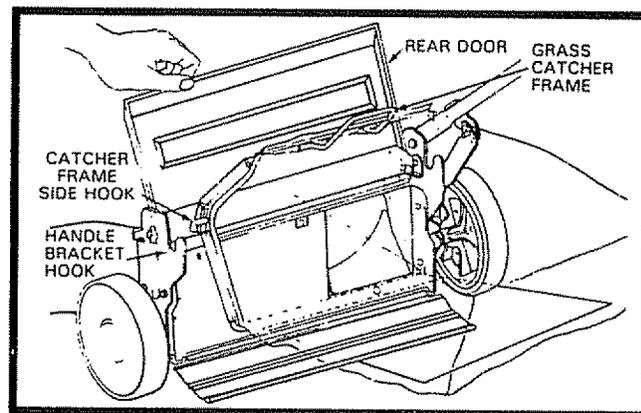

FIG. 4
- Lift the Rear Door of the lawn mower and place the Catcher Frame Side Hooks onto the Handle Bracket Hooks (See Fig. 4).